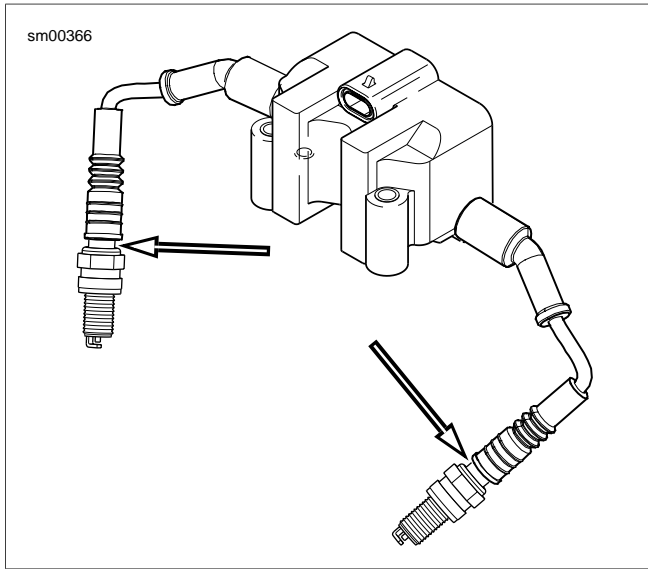

Figure 6-14. Boot Gap
- See Figure 6-14. When assembling the spark plug boots onto the spark plugs, make sure the boot is slid all the way down over the spark plug insulator. The gap should not exceed 1/8 in. (3.2 mm).